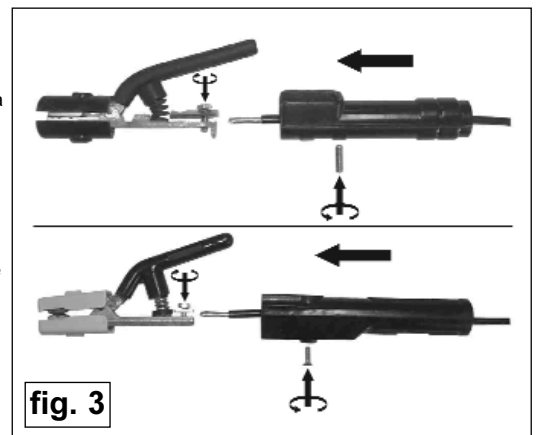

fig. 3
3.3.2 ELECTRODE HOLDER: Refer to fig.3. (For ARC welding)